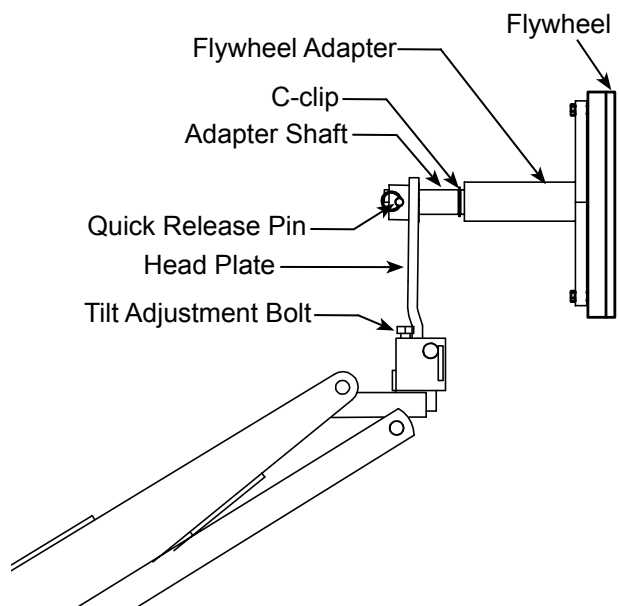

Figure 4 - Flywheel Adapter Operational Illustration
1. Remove all the flywheel attaching bolts (flywheel to crankshaft bolts) except for the three bolts pointed in Figure 4.
2. Install the flywheel adapter as shown in Fig. 4. Close the release valve knob fully. Pump the handle to raise the lifting arm and align the flywheel adapter to the flywheel using the tilt adjustment bolt.
1. Close release valve knob, pump the handle and raise the flywheel into position shown in Figure 4 for installation. Adjust the flywheel using tilt adjustment bolt to align the flywheel with the crankshaft.